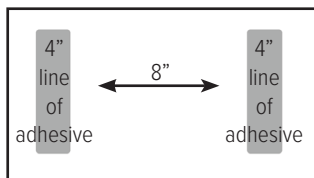

Figure 2.1.1
2.1.1 Apply adhesive on base reveal as shown in Figure 2.1.1.